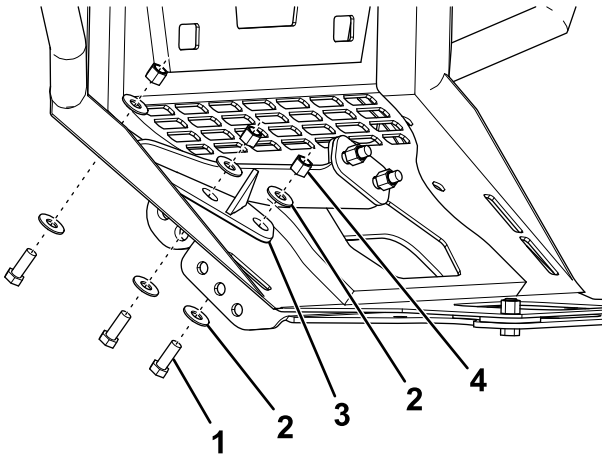

Figure 3
10. Secure the undercarriage skidplate to the vehicle and left support plate using 3 bolts (3/8 inch), 6 washers, and 3 locknuts (Figure 3).